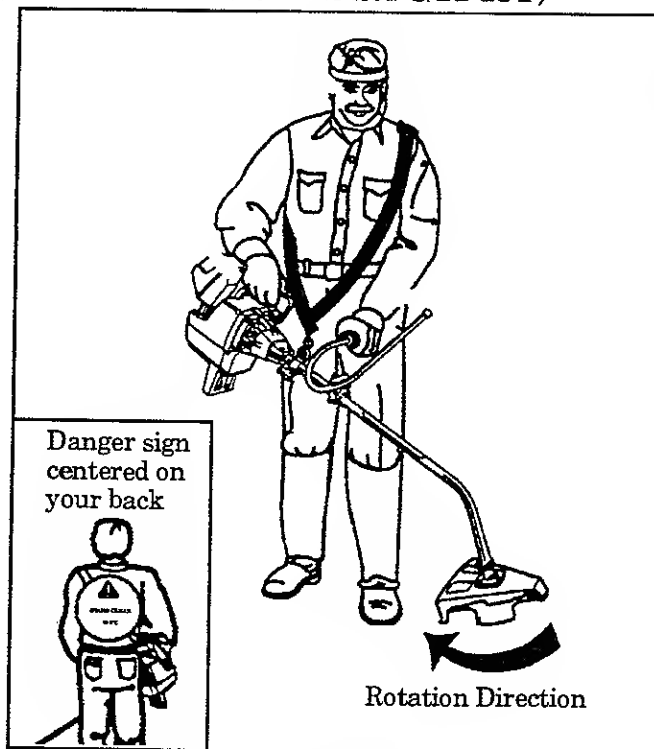

Figure 9
- a. Place shoulder strap on your left shoulder with the danger sign on your back and hook to the right side of your waist. Figure 9.
2. Fasten the shoulder strap hook to the clamp and lift the tool to the operating position. Figure 9.
- a. Left arm extended, hand holding handlebar grip. Figure 9.
- b. Right hand holding top handle, fingers on throttle trigger. Figure 9.
- c. Engine below waist level. Figure 9.